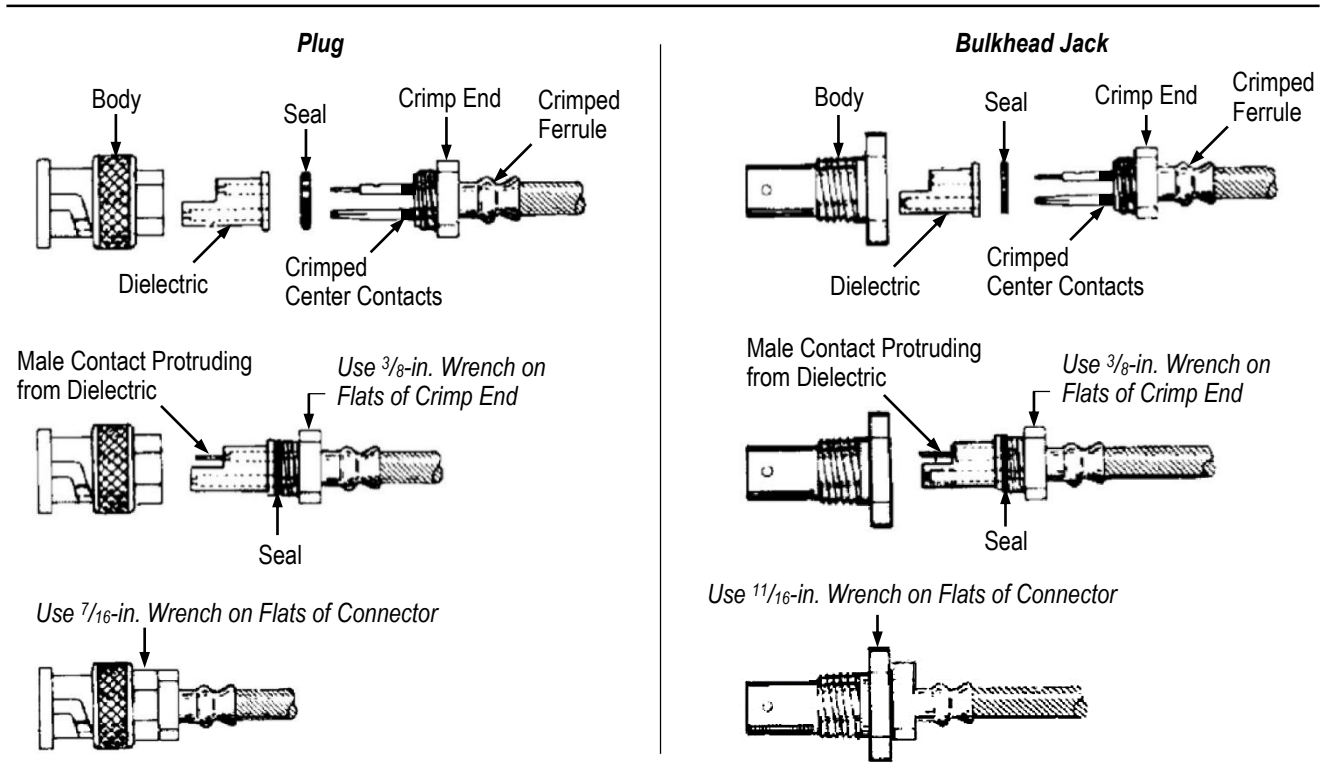

Figure 4
10. Slide the seal over the center contacts. Refer to Figure 4.
12. Using a wrench on the flats of the crimp end, thread the crimp end onto the body. See Figure 4.
13. Using a wrench on the flats of the connector, tighten the components to a torque of 1.7 to 2.26 Nm [15 to 20 in.-lb]. See Figure 4.
- Added step 9 to Paragraph 1.1, and corrected wrench sizes in Figure 4